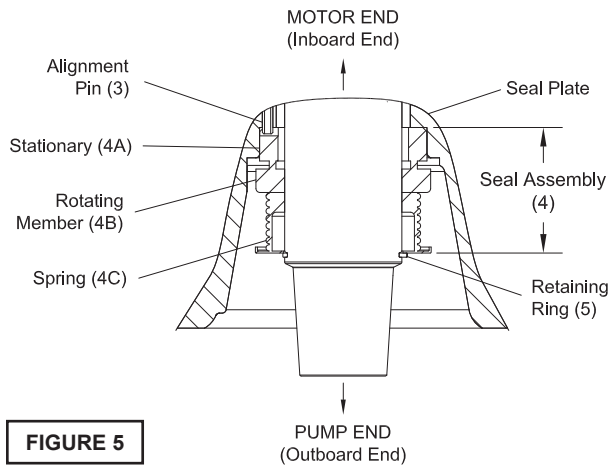

FIGURE 5
To expose outer shaft seal (4) for examination, remove Impeller and Volute per Section E-2.1. Set motor assembly (1) in the inverted position to prevent loss of oil. Remove snap ring from motor shaft, then retaining ring (5), spring (4C) and rotating member (4B) from shaft, See Figure 5. Examine all seal parts and especially contact faces. Inspect seal for signs of wear such as uneven wear pattern on stationary members, chips and scratches on either seal face. **DO NOT** interchange seal components, replace the entire shaft seal (4). If replacing seal, remove stationary (4A) from mounting plate by prying out with flat screw driver.